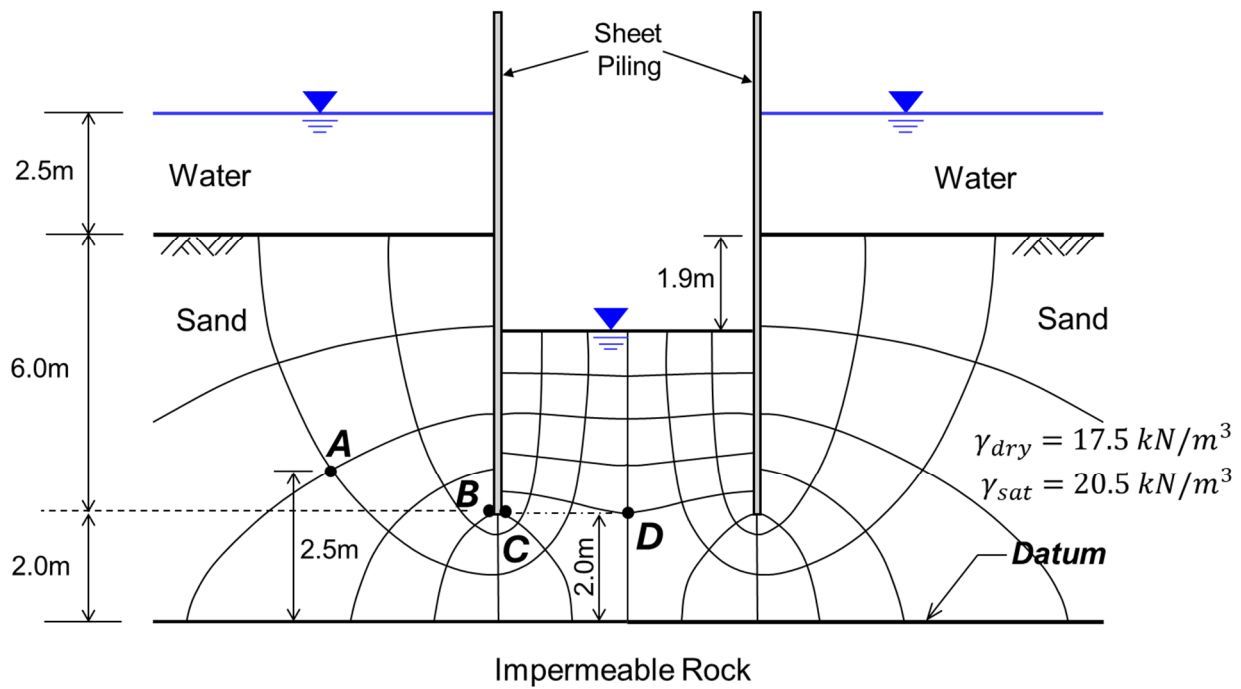

Fig. 3
(2) A lakebed consists of a sand layer 8.0 m-thick overlaying impermeable rock. The depth of water is 2.5 m. To enable excavation, two rows of parallel sheet piling are driven into the lakebed as shown in Fig. 3. The depth of penetration into the lakebed is 6.0 m. Excavation to a depth of 1.9 m below the lakebed level is carried out between the two rows of sheet piling. The water level within the excavated area is kept at the excavation level by pumping. Assume the datum is at the top of the impermeable rock. A flow net develops as shown in Fig. 3. The dry unit weight and saturated unit weight of the sand is 17.5 kN/m^3 and 20.5 kN/m^3 , respectively. Assume the unit weight of water is 9.8 kN/m^3 . Velocity head of the water does not need to be considered in the calculation. Answer the following questions: